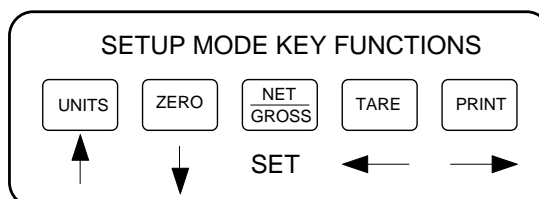

Figure 6-1: Setup Menu Key Assignments
3. Use the four directional keys (shown in Figure 6-1 below) to adjust the displayed value to the actual test weight value. Increase the flashing digit by pressing the UNITS key. Decrease the flashing digit by pressing the ZERO key. Pressing the PRINT key or the TARE key will change the position of the flashing digit.
2. The display will momentarily show "CAL 0", followed by a flashing zero. Use the four directional keys (shown in Figure 6-1) to adjust the displayed value to the zero calibration value.
2. The display will momentarily show "**CAL 1**", followed by a flashing zero. Use the four directional keys (shown in Figure 6-1) to adjust the displayed value to the span calibration value.